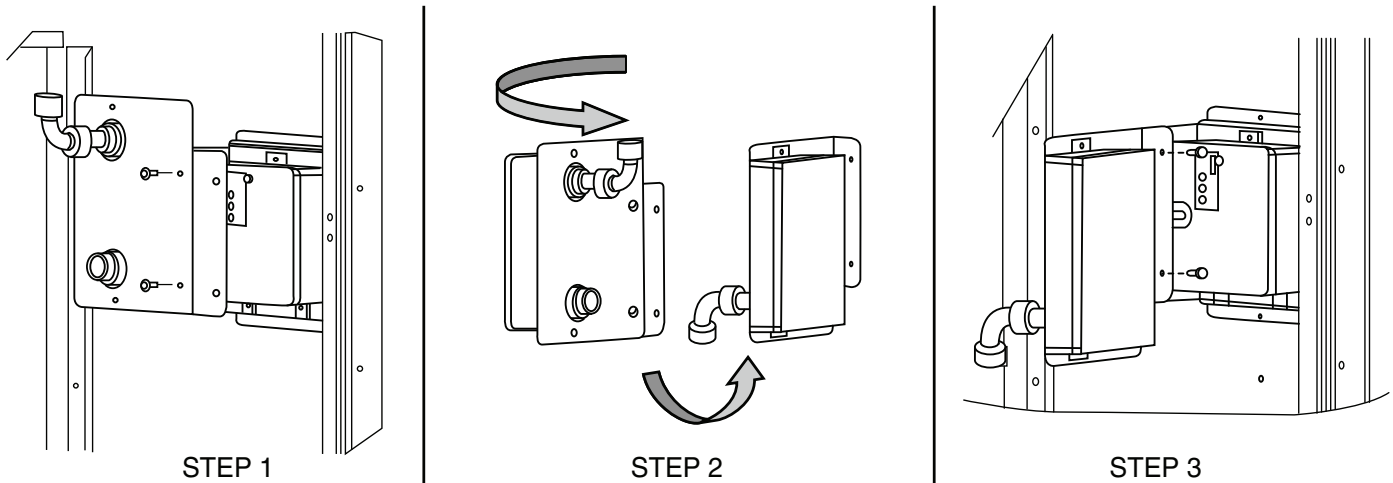

Fig. 45 — Completing Installation of Return Air Smoke Sensor
1. Unscrew the two screws holding the Return Air Smoke Detector assembly. See Fig. 45, Step 1. Save the screws.
2. Turn the assembly 90 degrees and then rotate end to end. Make sure that the elbow fitting is pointing down. See Fig. 45, Step 2.
3. Screw the sensor and detector plate into its operating position using screws from Step 1. See Fig. 45, Step 3.